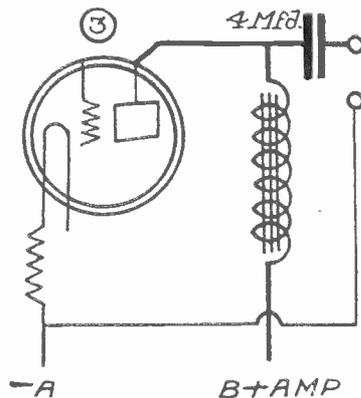

FIG. 574 The circuit illustrating how to install a choke coil and condenser, as requested by Wallace Merchow.
(1) Try .00025 or .0001 mfd. fixed condensers.
(2) The choke coil and condenser will prevent the speaker windings from becoming damaged. How to connect it up is shown in Fig. 574. The choke coil can be of the 100 henry variety. The capacity of the fixed condenser is indicated.